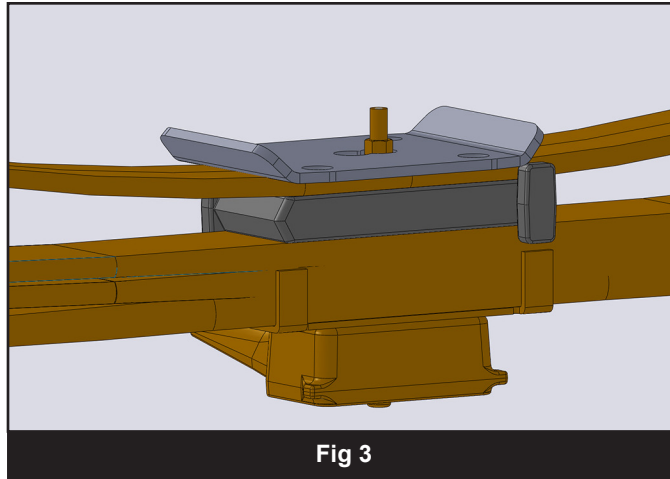

Fig 3
15. Raise the axle to engage the block spring alignment pins. Be certain the leaf center pin aligns with the REAR hole in the new lift block. Position the new u-bolt plate on the top of the spring over the center pin nut. Position the plate so the bolt pattern is shifted forward on the spring. (Fig 3) Fasten the entire assembly with the provided u-bolts, and flanged nuts. Snug but do not torque the u-bolts at this time.